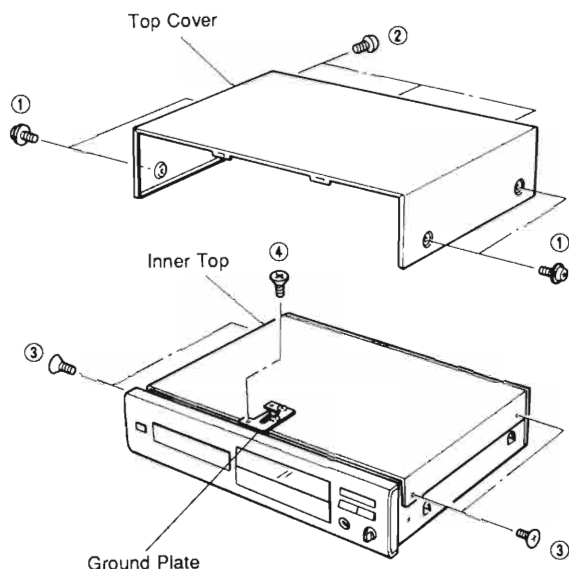

Fig. 1
- Remove 4 screws (①) and 3 screws (②) in Fig. 1.
- Remove 4 screws (③) and a screw (④) in Fig. 1.